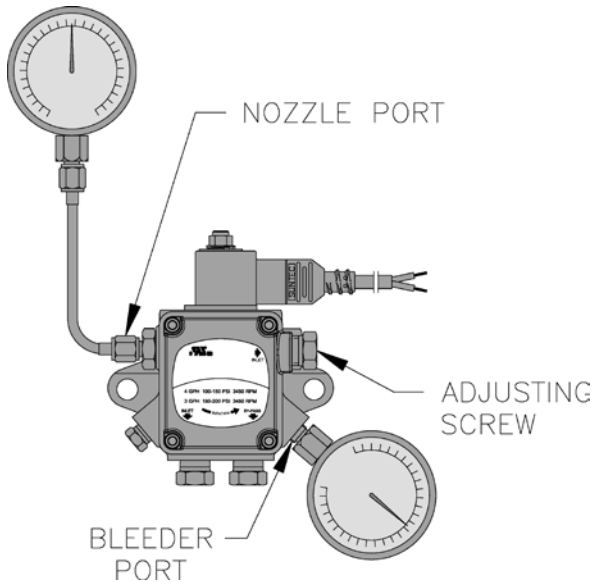

Figure 26: Adjusting Fuel Pump Pressure
- a. When checking a fuel unit's operating pressure, a reliable pressure gauge may be installed in either the bleeder port or the nozzle port. Refer to Figure 26. Refer to Figure 9 for Riello burner.